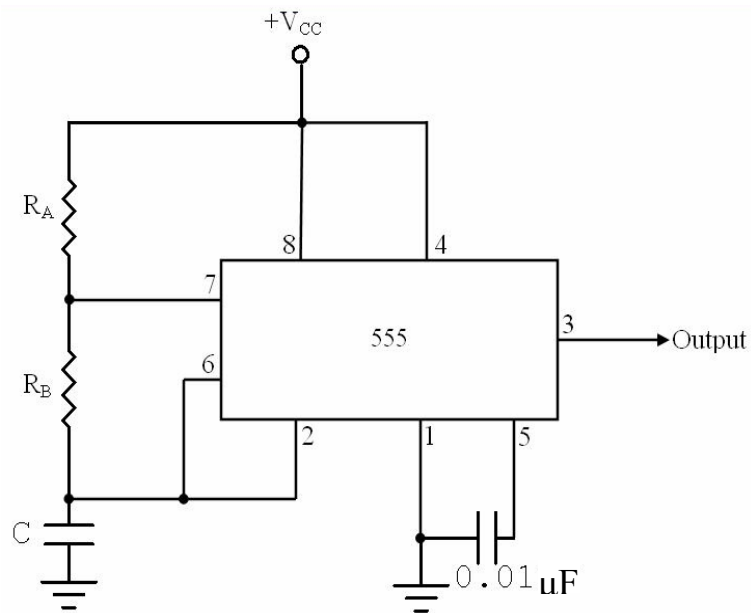
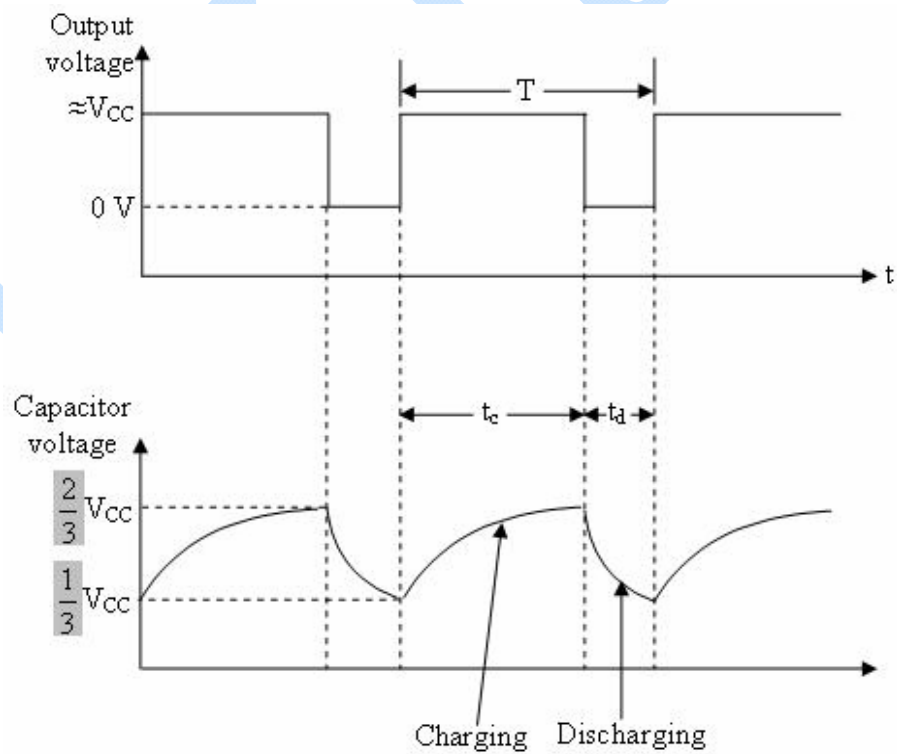

Figure 4: Circuit diagram for Astable Multivibrator
Figure 5: Output voltage waveforms
Pin 5: **Control Voltage**: An external voltage may be applied to this terminal to change the threshold as well as the trigger voltage. The pulse width of the output waveform is hence dependent on it. When not in use, the control pin should be bypassed to ground with a 0.01 μF capacitor (refer to Figures 4, 6 and 7) to prevent any noise problems.
Figure 4 shows 555 timer connected as an astable multivibrator. Pin 5 is bypassed to ground through a 0.01 μF capacitor. The power supply ($+V_{CC}$) is connected to common of pin 4 and pin 8 and pin 1 is grounded. If the output is high initially, capacitor C starts charging towards V_{CC} through R_A and R_B . As soon as the voltage across the capacitor becomes equal to $\frac{2}{3}V_{CC}$, the upper comparator triggers the flip-flop, and the output becomes low. The capacitor now starts discharging through R_B and transistor Q_1 . When the voltage across the capacitor becomes $\frac{1}{3}V_{CC}$, the output of the lower comparator triggers the flip-flop, and the output becomes high. The cycle then repeats. The output voltage and capacitor voltage waveforms are shown in Figure 5.
As can be seen from the Figure 5, the capacitor voltage waveform is an exponentially rising and falling waveform between $\frac{2}{3}V_{CC}$ and $\frac{1}{3}V_{CC}$ which represents periodic charging and discharging of the capacitor between $\frac{2}{3}V_{CC}$ and $\frac{1}{3}V_{CC}$. The time during which the capacitor charges from $\frac{1}{3}V_{CC}$ to $\frac{2}{3}V_{CC}$ is equal to the time the output is high and is given by
- Connect the circuit as shown in Figure 4 with the calculated values of R_A , R_B and C for 75% duty cycle.